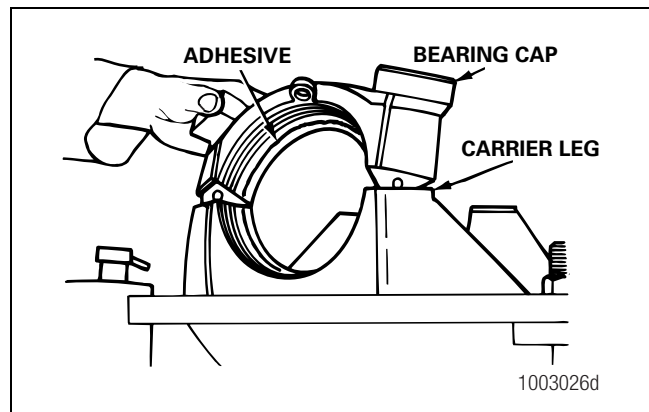

Figure 5.50
3. Apply green Loctite® 635 or 680 adhesive into the bearing bores of the carrier legs and bearing caps so that the Loctite® adhesive is spread out 360 degrees. Adhesive must not contact the adjusting ring threads. Refer to Section 6. Figure 5.50.